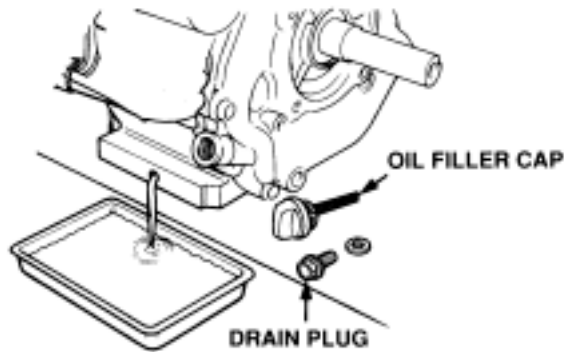

Figure 16: Draining Engine Oil
- (1) Drain the oil while the engine is still warm to assure rapid and complete draining.
- (2) Remove the oil filler dipstick/cap and drain plug.
- (3) Allow oil to drain from the engine (Figure 16).